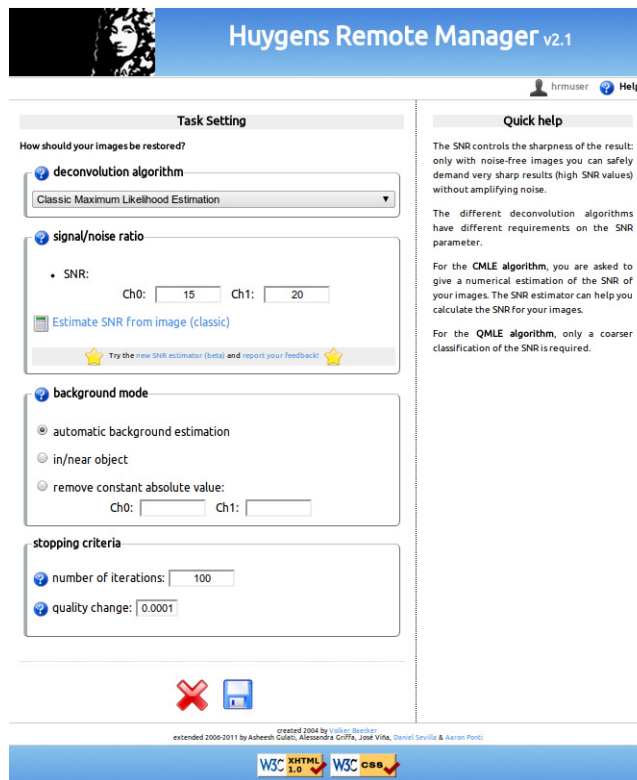

FIGURE 2.15. The Restoration Parameter Set: Deconvolution algorithm, SNR estimation, background mode and stopping criteria.
A Restoration Parameter set includes the following parameters (See Figure 2.15):
- *Deconvolution algorithm:* Two deconvolution algorithms are available to process the data. The Classic Maximum Likelihood Estimation (CMLE) algorithm and the Quick Maximum Likelihood Estimation (QMLE) (See Figure 2.15).